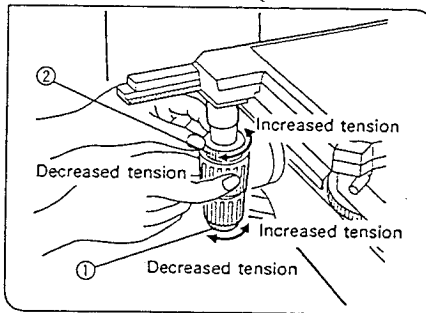

Fig. 41
(Figs. 41, 42)
- ⊙ The tension of the X-axis and Y-axis knobs can be individually adjusted. Turning the X adjustment ring ① or the Y adjustment ring ② counter-clockwise increases tension, and turning them clockwise reduces tension. When adjusting the tension, hold the X-axis and Y-axis knobs to keep them from turning along with the tension adjustment rings.
- ★ If the tension is adjusted too tight, a creaking sound may be heard during stage travel, and the stage may backtrack. (Fig. 41)